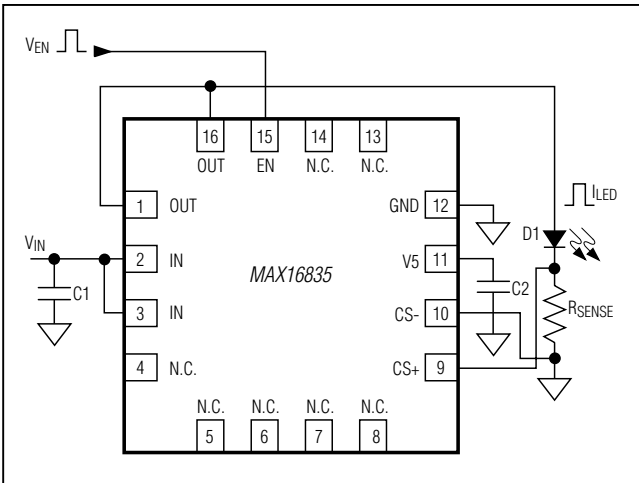

Figure 1. Pulse Application with  $V_{IN}$  at a Constant Voltage
The MAX16835 provides pulsed or chopped current dimming. Generally, HB LEDs are binned to match at their full-rated current; however, LEDs from the same bin exhibit poor matching at currents other than full-rated current. To achieve uniformity, HB LED manufacturers recommend PWM pulsing of the LED current at their full-rated value. There are two methods for producing a PWM output. One method is by pulsing the enable input (EN) while having a constant voltage at IN. The other method is to connect EN to IN and pulse both EN and IN. Both methods generate a regulated-amplitude PWM current (variable duty cycle) that can provide control over the LED brightness (see Figures 1 and 2).